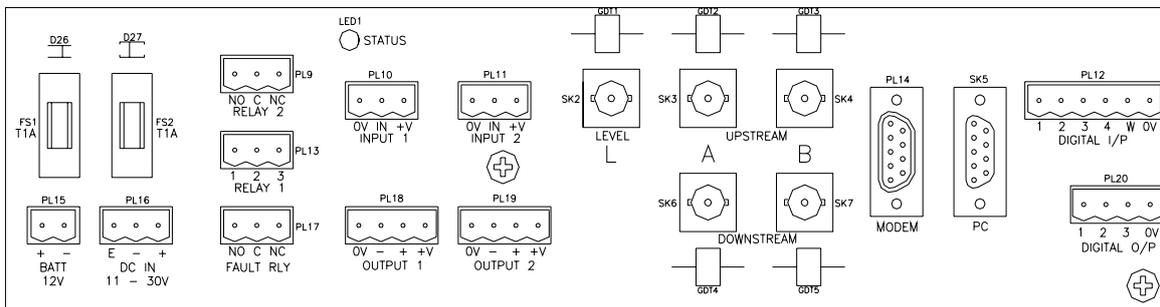

Fig 3. Connection panel - enlarged view.
The connection panel is part of the mother board which contains the input, output and power management functions. It supports the main processor (CPU) card and the transducer interface (TIF) card which plug in beneath the protective cover. The connection panel is shown on a larger scale in Fig 3.
- **SK5 - RS232** via 9 way D connector (female). See Fig 3. This port is used for connection to a PC for setting up, diagnostics and downloading logged data.
- **PL14 - RS232** via 9 way D connector (male). See Fig 3. This port is used for connection to a modem for remote access for programme alterations, diagnostics and downloading logged data.